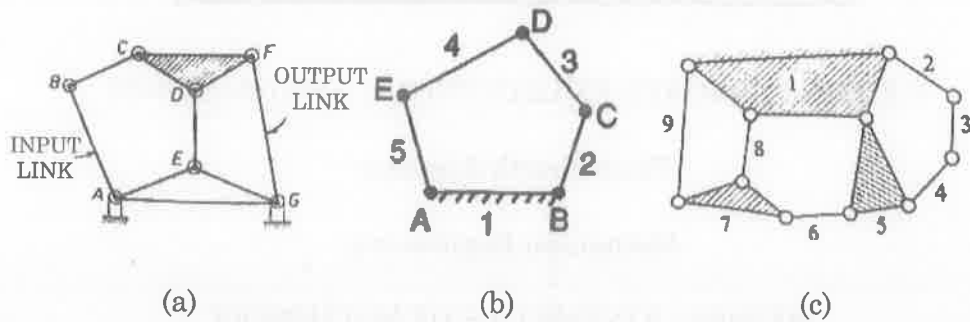

Figure 1
11. (a) (i) Compute the degree of freedom of the following mechanisms shown in Figure 1. (8)